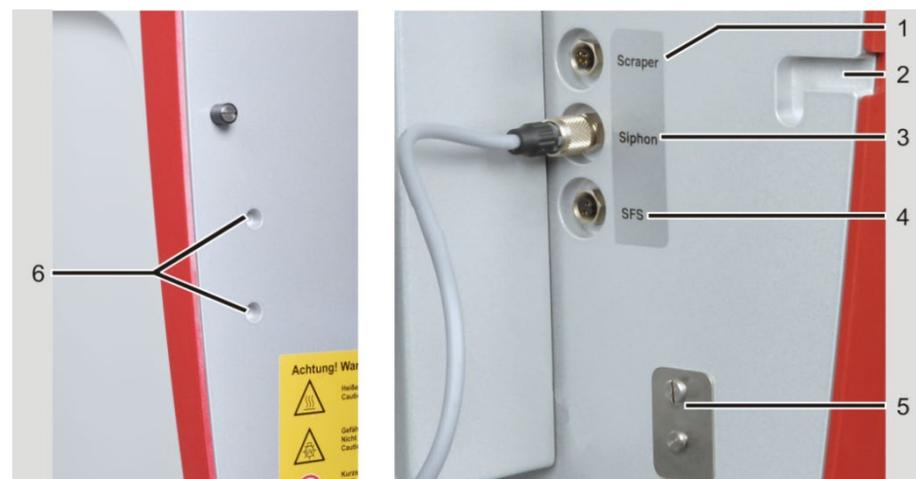

Fig. 40 Connections at the sample chamber walls
7. Plug the connector of the siphon sensor into the connection on the right sample chamber wall (3 in Fig. 40 p.64).
1. Hang the autosampler in the corresponding supports of the sample chamber (2, 6 in Fig. 40 p. 64).